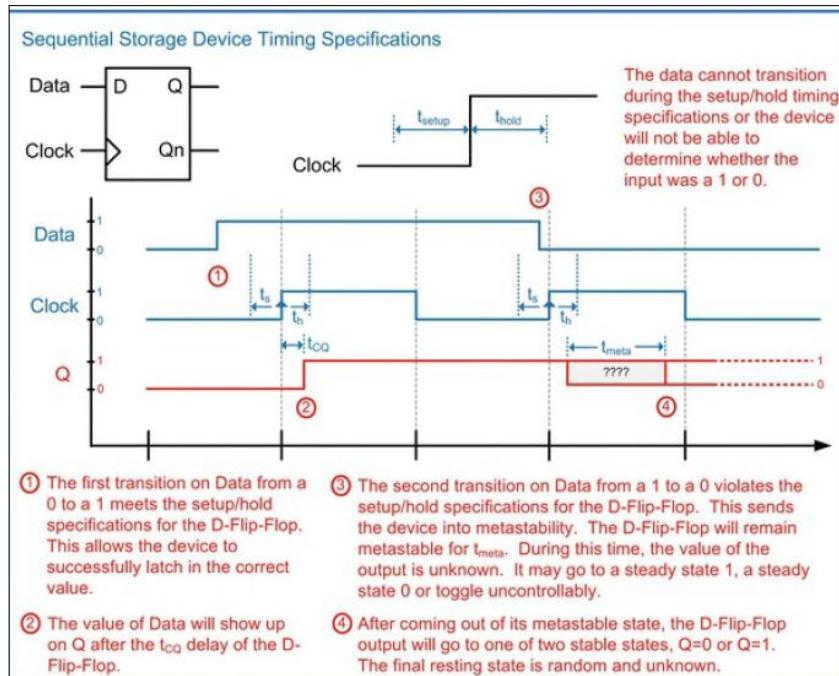

Figure 10.14: Set up Hold region
That's why when transitioning, we should apply data transition in certain region called $t_s t_h$, which corresponds set-up hold period (see Figure 10.14).
- In Figure 10.14, the condition is violated at 3) because we didn't respect t_s